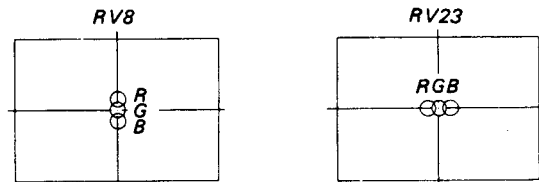

Fig. 1-11.
2. Adjust RV8 and RV23 on the DB board to coincide with R, G and B dots at the center of the screen as shown in Fig. 1-11.